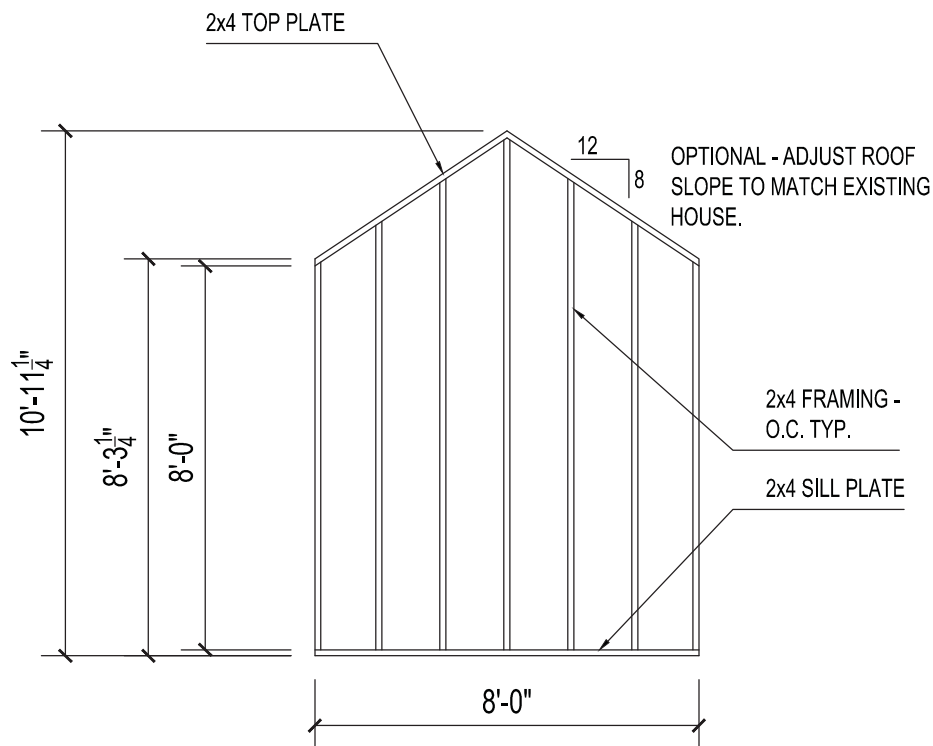

fig.6a & 6b - End Wall Framing
- d) Mark the angle from the vertical to the top chord on the short side of a 2x4 and cut 4 boards so that the length of the board is 8'-0" (unless otherwise noted in fig.6a or fig.6b)
- e) Layout the 5 cut members on the floor platform per fig.6a or fig.6b.
- ii. Cut two members to the width of the opening and nail in place per fig.6a or fig.6b. Adjust positioning based on required framed opening. See manufacturer's requirements.
- ii. Cut a 2x4 members to the width of the opening per fig.6a or fig.6b. Adjust positioning based on required framed opening. See manufacturer's requirements.